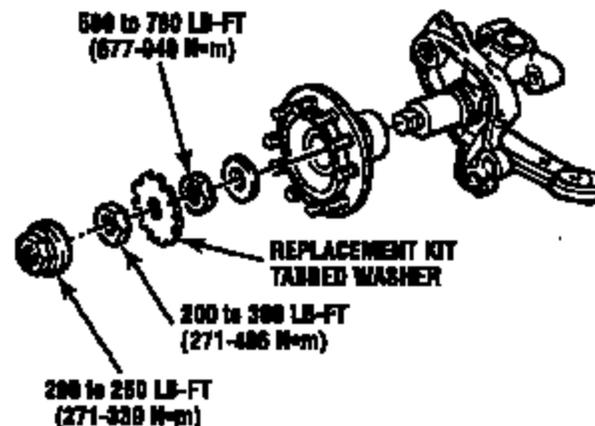

Figure 5
5. Install new thick inner washer and the new wheel bearing nut onto the spindle threads. Tighten the inner wheel bearing nut onto spindle 500 to 700 lb-ft (678-949 N·m) while rotating the hub in both directions. Refer to Figure 5.